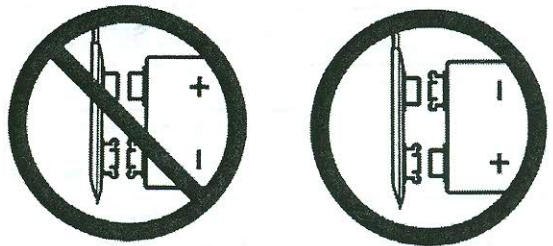

Figure 11 Smartap® Battery Connection
2. Connect the battery by pressing the clip onto the battery terminals (See Page 13, Figure 11).
19. Disconnect the battery. The connection to the battery is a snap type connector (See Figure 11).
NOTE: Use caution when reconnecting the battery (See Figure 11).